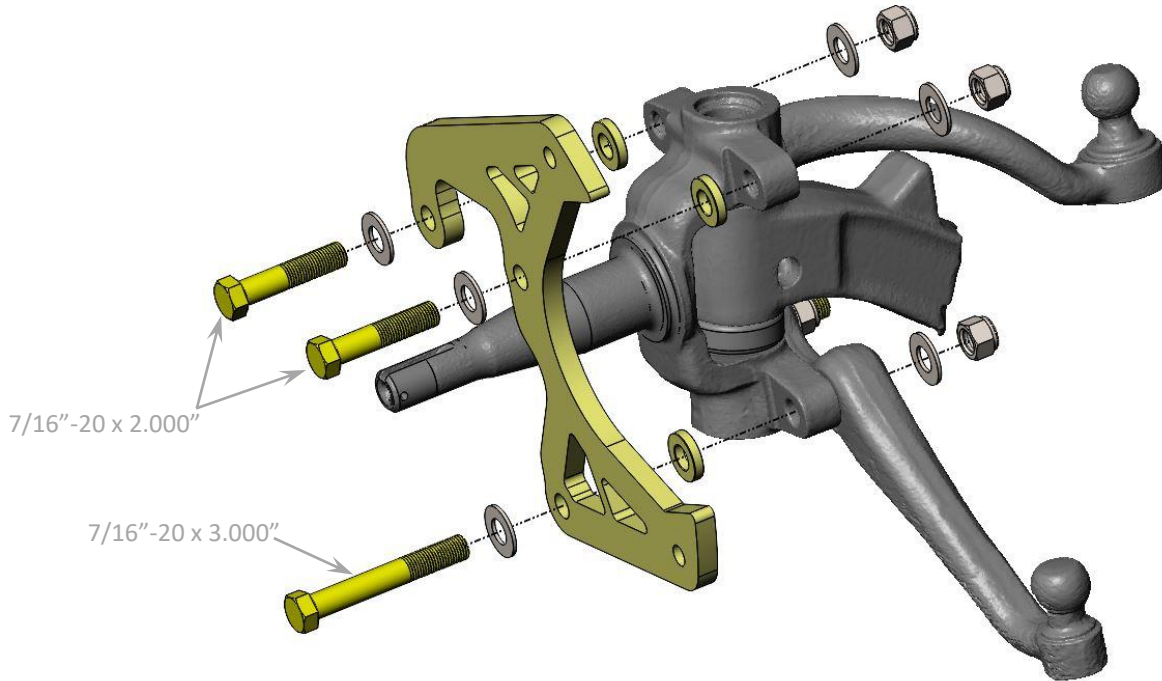

Figure 2a – Caliper Bracket Installation (Driver Side Shown)
5. Position the Caliper Mounting Bracket against the spindle. All 3 mounting holes require the use of provided Spacer Bushings that measure 0.875" OD x 0.450" ID x 0.177" Length. Insert these bushings between the bracket and the spindle and assemble using the 7/16"-20 x 2.000" Grade 8 Hex Head Bolts in the upper two holes. In the lower hole use the longer 7/16"-20 x 3.000" Grade 8 Hex Head Bolt. A washer SAE Flat Washer is provided for both head and nut side of the bolt. Once all three of the bolts have been installed through the bracket, spacer bushings, and spindle torque them to 60 ft/lbs (**Including the 7/16"-20 x 2.500" Grade 8 Hex Bolt from step 4 on the previous page**). Figures 2a and 2b below show the proper assembly.